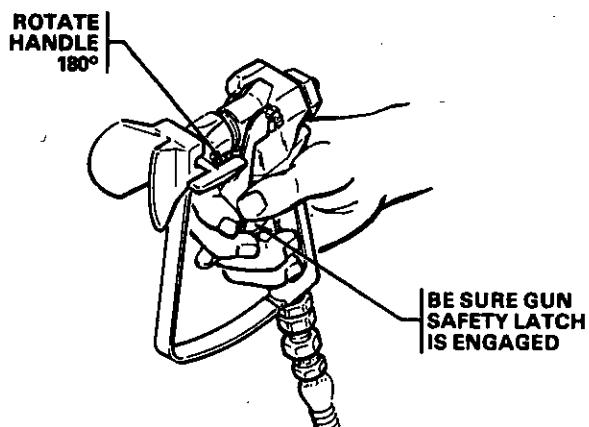

Fig 6
- If the spray tip does clog, release the gun trigger, engage the gun safety, and rotate the spray tip handle 180°. See Fig 6.